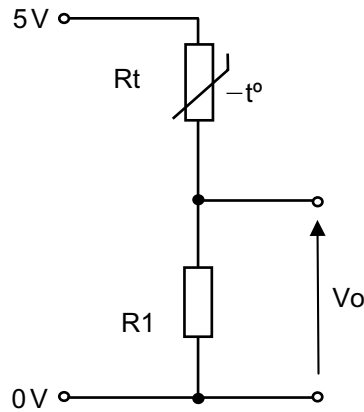

Fig. 1(a)
- 1 (a) A voltage divider circuit utilising a thermistor is shown in **Fig. 1(a)**.